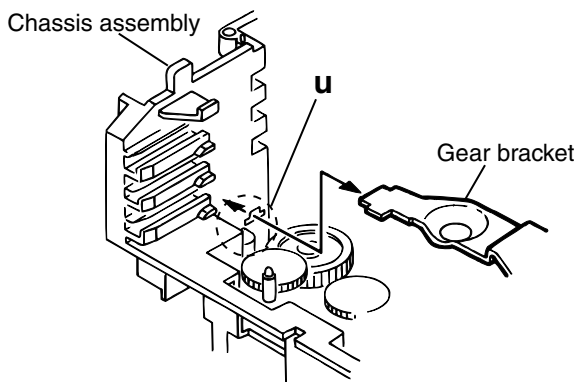

Fig.19
3. From the notch "u section" on the chassis assembly fixing the edge of gear bracket, remove and take out the gear bracket(See Fig. 19).